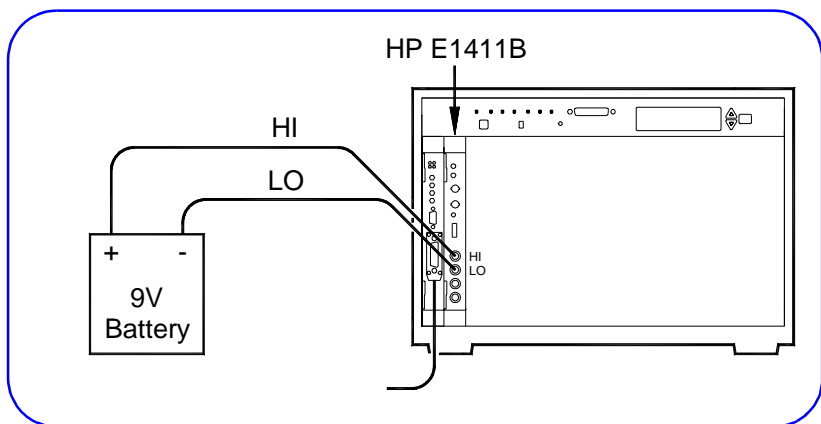

Figure 29. Example: HP E1411B Connections
- 1 Turn mainframe power OFF and connect the battery to the HI and LO terminals of the HP E1411B as shown in Figure 29. Then, turn mainframe power ON.